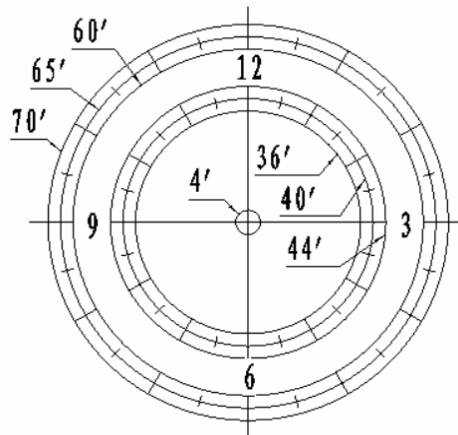
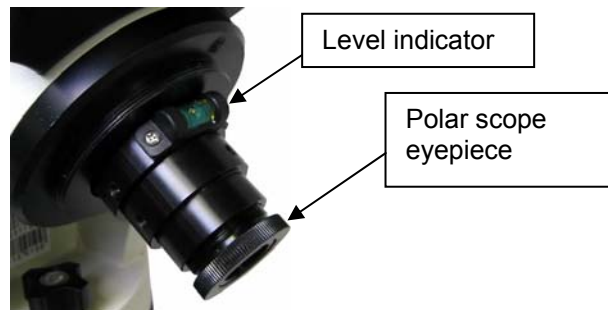

Figure 11. Polar Scope Dial
Figure 12. Polar scope with bubble level indicator
As indicated in Figure 11, the Polar Scope Dial has been divided into 12 hours along the angular direction with half-hour ticks. There are 2 groups, 6 concentric circles marked from 36' to 44' and 60' to 70', respectively. The 36' to 44' concentric circles are used for polar alignment in northern hemisphere using Polaris. While the 60' to 70' circles are used for polar alignment in southern hemisphere using Sigma Octantis.
During initial setup of the iEQ mount, it is likely that the viewing hole on the DEC axis of the polar scope may be blocked by the DEC axle. The Polar Scope Dial in the polar scope may not be set at the normal clock position with 12 located at the top, as shown in Figure 11. Before doing the Quick Polar Axis Alignment, complete the following steps:
- (1) Take off both the Polar Axis Cover and the Polar Scope Cover from the mount.
- (2) First, thread the dark field illuminating LED end into the threaded hole located on the Polar Scope. Then plug the other end into the Reticle socket located on the R.A. unit. The illumination intensity can be adjusted using the hand controller (HC) via the “**Set Eyepiece Light**” function under the “**Set Up Controller**” menu.
- (3) Use the ▲ or ▼ button to turn the DEC axle to unblock the Polar Scope view.
- (4) Adjust polar scope eyepiece shown in Figure 12 to bring the polar scope dial in focus.
- (5) To rotate the Polar Scope to align the 12 position of the dial on the top, as shown in Figure 11, release the four R.A. clutch screws while holding the OTA, if an OTA is mounted. Then turn the R.A. drive using HC's ◀ or ▶ button (press 9 button to change the rotation speed to MAX). If your Polar Scope is equipped with a bubble level indicator, as shown in Figure 12, simply make sure the bubble is in the middle.